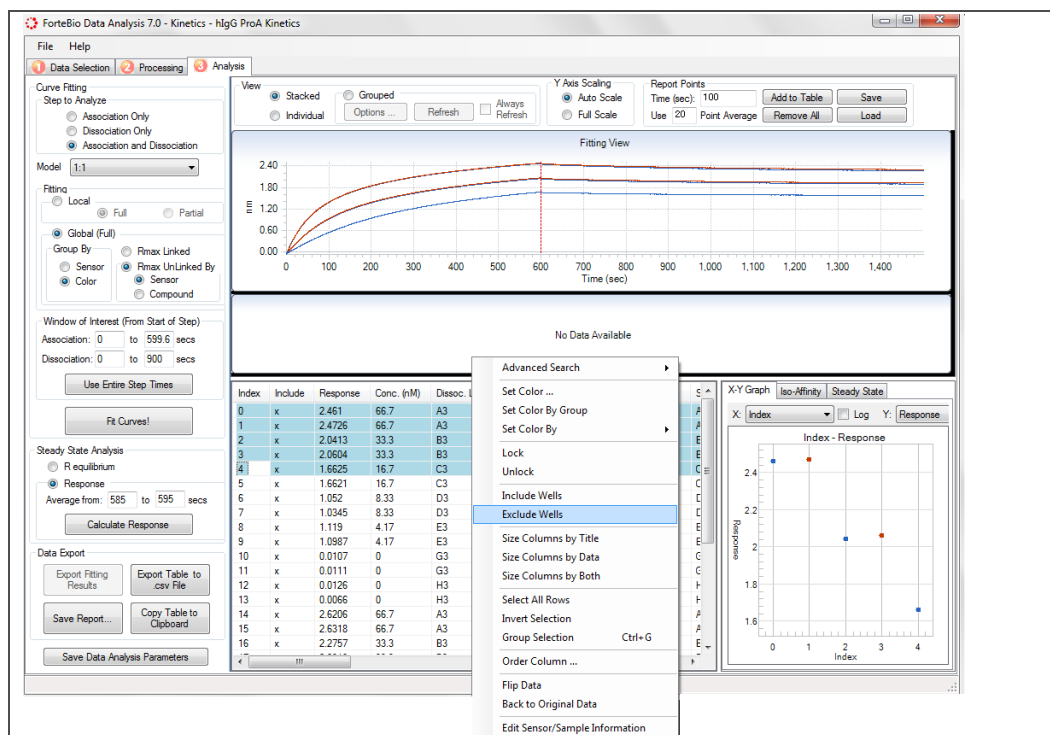

Figure 5-37: Excluding Wells from the Biosensor Table
- b. Right-click the selected row(s), and select **Exclude Wells** (Figure 5-37) or press the space bar. Press the space bar again to toggle the include/exclude status of the curve.
Biosensors that will be included in the analysis have an “X” in the **Include** column; excluded biosensors do not (Figure 5-37).